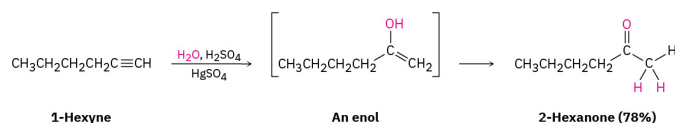

Figure 22.3k. Hydration of 1-hexyne to produce 2-hexanone. (credit: Organic Chemistry \(OpenStax\), CC BY-NC-SA 4.0).
Hydration of alkynes also can take place. Alkynes don't react directly with aqueous acid but will undergo hydration readily in the presence of mercury(II) sulfate as a Lewis acid catalyst. The reaction occurs with Markovnikov regiochemistry, so the -OH group adds to the more highly substituted carbon and the -H attaches to the less highly substituted one as demonstrated in Figure 22.3k.